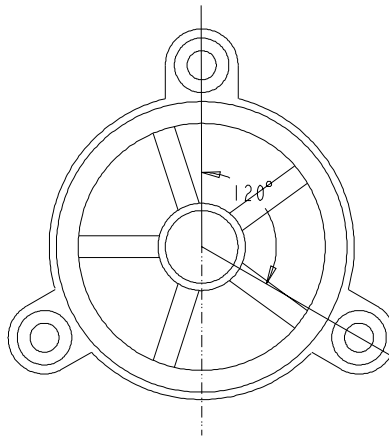

Figure 12-46 Sketch for generating the total aligned section view
- Generate the sectioned right view by defining a plane on the top view of the model, refer to Figures 12-46 and 12-47.
12. Choose the **Sketch > Line > Line** from the menu bar and sketch the line, as shown in Figure 12-46. These lines define the section plane.
13. Align the lines and modify the angular dimension to **120**, as shown in Figure 12-46.